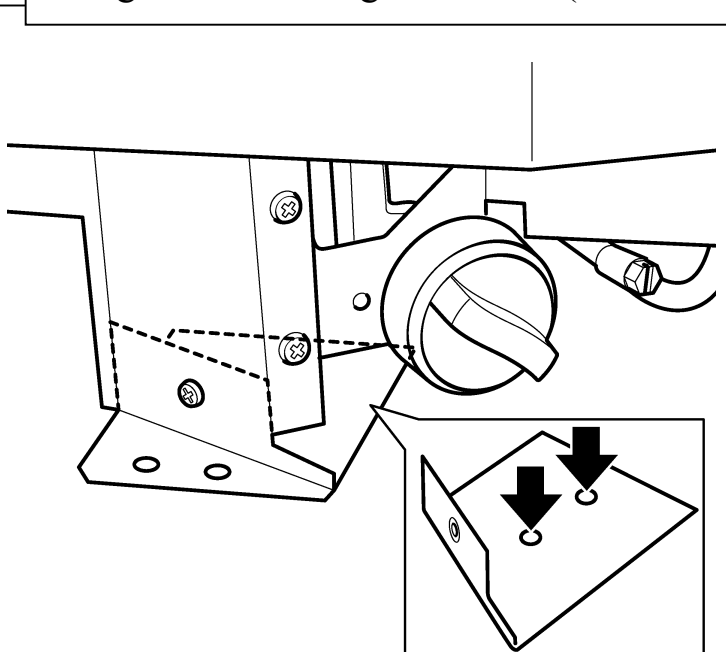

Figure 8. Locating the burner (Method 2)
- Place the burner assembly in the position (See figure 8).